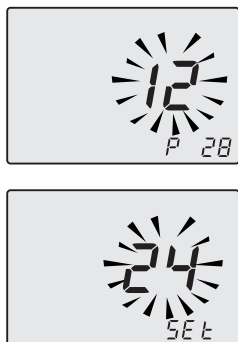

Fig. 10.4
- Use key 10 or 11 to modify the value of parameter 28 from **00** months to **48** months. The value **99**, which disables the maintenance request, is permitted. The writing **P28 - SET** alternates on the display (Fig. 10.4).